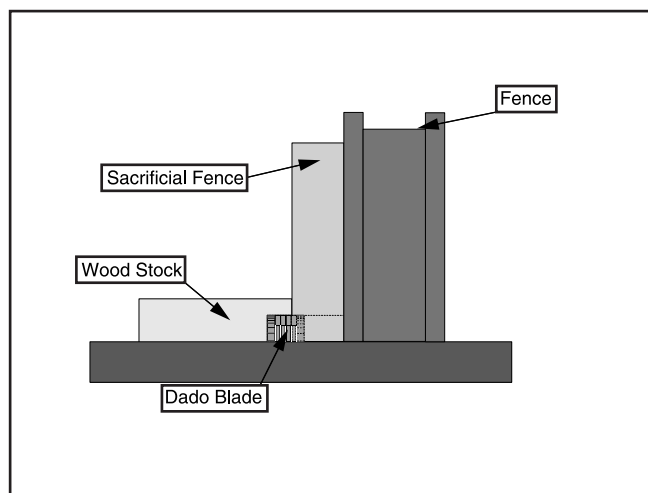

Figure 40. Rabbet cutting.
5. If rabbeting along the length of your workpiece, adjust the distance between the fence and the outside edge of the blade to suit your needs. See **Figure 40**. When cutting across the wood grain, use the miter gauge as a guide while rabbeting. **Remember:** Never use the fence as a stop in conjunction with your miter gauge.